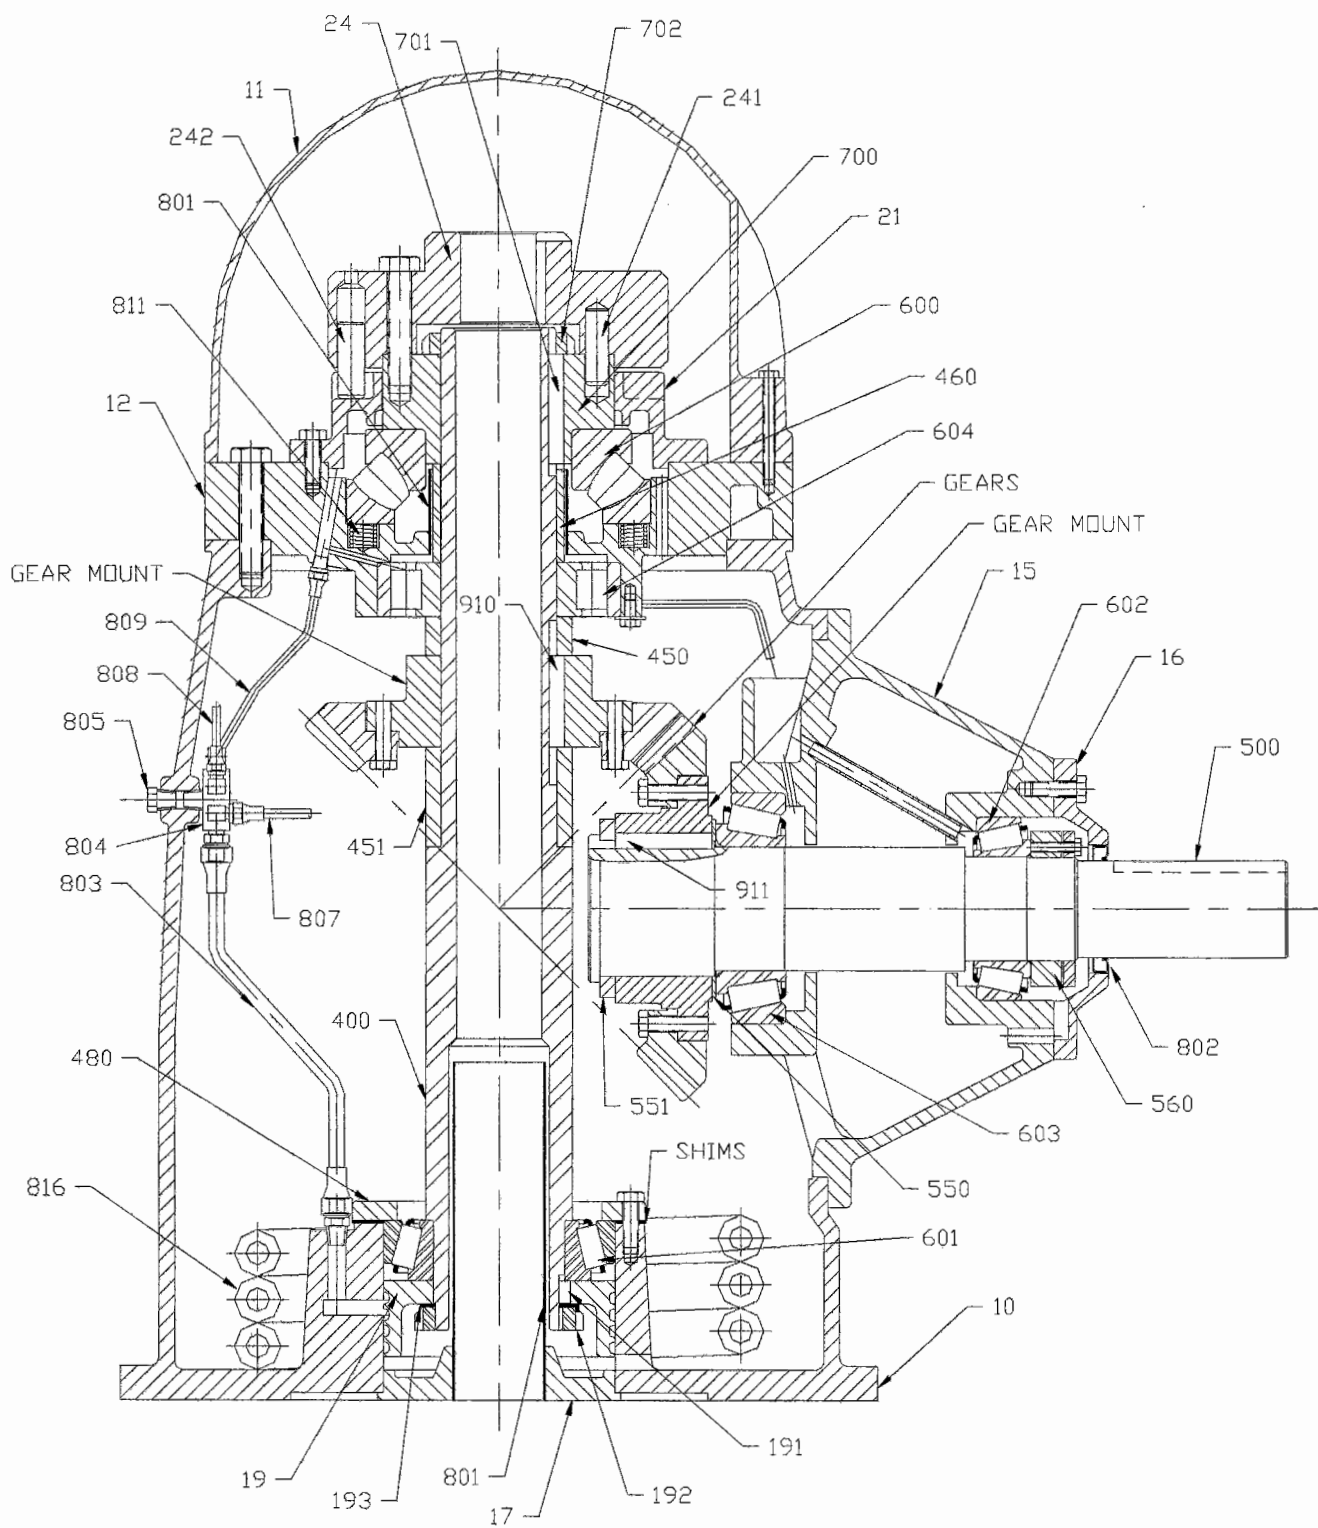

FIGURE 1
- 1.1 Refer to the cross section drawing during disassembly. See Figure 1.